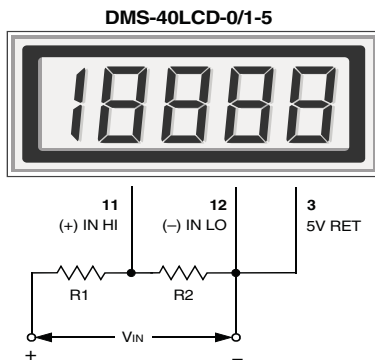

Figure 4. Input Attenuation Circuit
3. Engineering Scaling: For measuring voltages greater than the full scale input range of a given meter, the input signal must be attenuated. A simple voltage divider (similar to that shown in Figure 4) will scale the input to within the range of the selected meter. R1 and R2 should be precision, ±1%, metal film resistors with absolute TCR's less than 50ppm/°C. See Ap Note 4 for more information on engineering scaling.